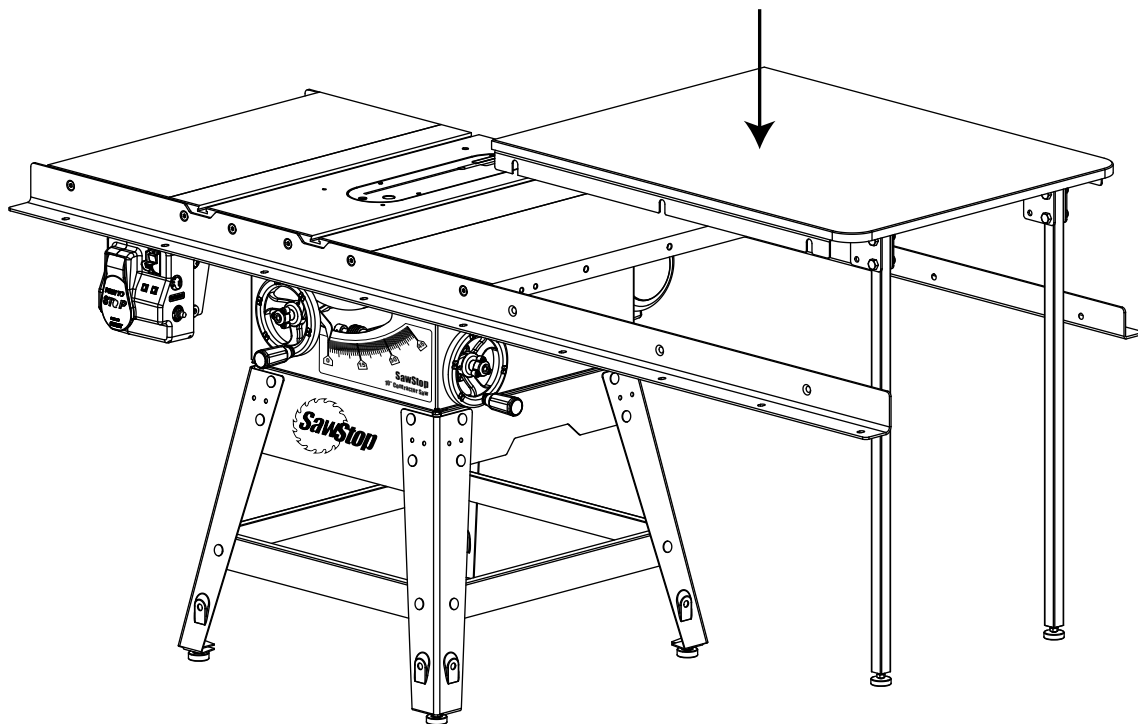

Fig. 12
12. The next step of the assembly is easiest with two people. Position the extension table between the front and rear rails. The support legs should be at the far end of the rails, away from the saw (see Fig. 12). If you are having trouble fitting the table between the rails you can loosen the screws and bolts that mount the rear rail to the saw so that you can move the rear rail out slightly while you position the extension table between the front and rear rails. Align the holes in the front and rear rails with the notches in the front and rear edges of the extension table.